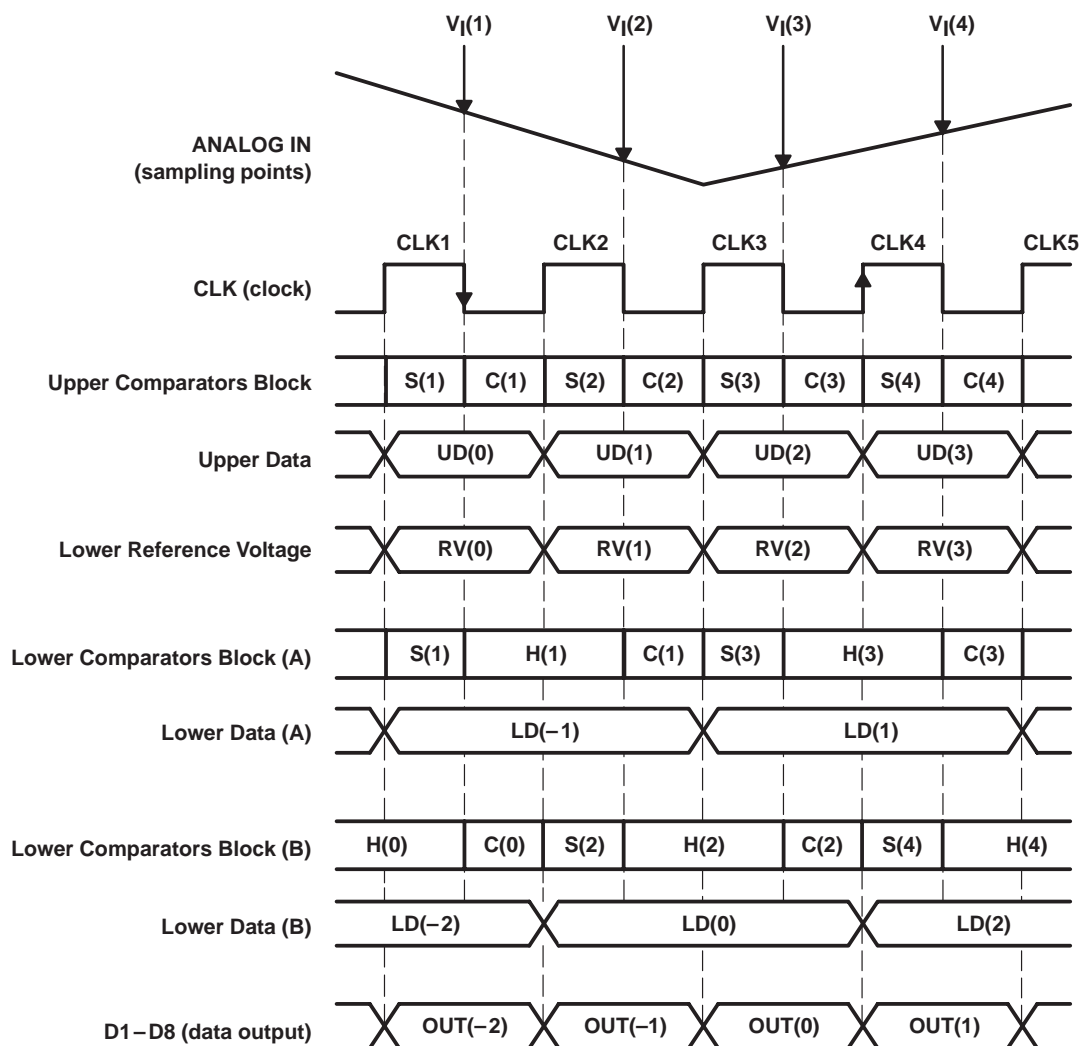

Figure 2. Internal Functional Timing Diagram
As shown in Figure 2, input voltage $V_I(1)$ is sampled with the falling edge of CLK1 to the upper comparators block and the lower comparators block(A), S(1). The upper comparators block finalizes the upper data UD(1) with the rising edge of CLK2, and simultaneously, the lower reference voltage generates the voltage RV(1) corresponding to the upper data. The lower comparators block (A) finalizes the lower data LD(1) with the rising edge of CLK3. UD(1) and LD(1) are combined and output as OUT(1) with the rising edge of CLK4. As shown in Figure 2, the output data is delayed 2.5 clocks from the analog input voltage sampling point.